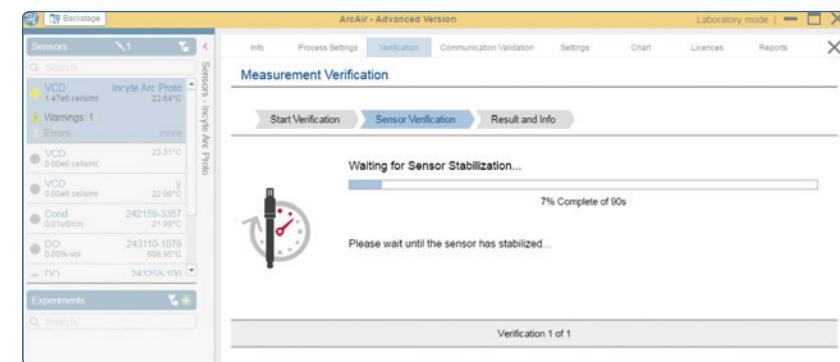

Figure 29: Sensor Stabilization
- 6) Press «Start», the sensor will now equilibrate for 120 sec. (figure 29).